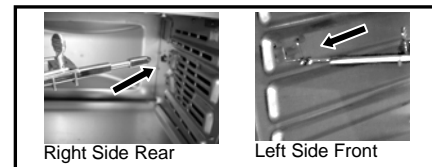

Fig. 2
6. Insert the pointed end of the rotisserie rod into the drive socket located at the rear on the right hand side of the oven wall. Make sure the square end of the rotisserie rod rests on the rotisserie rod support located at the front on the left hand side of the oven wall. (Fig. 2)